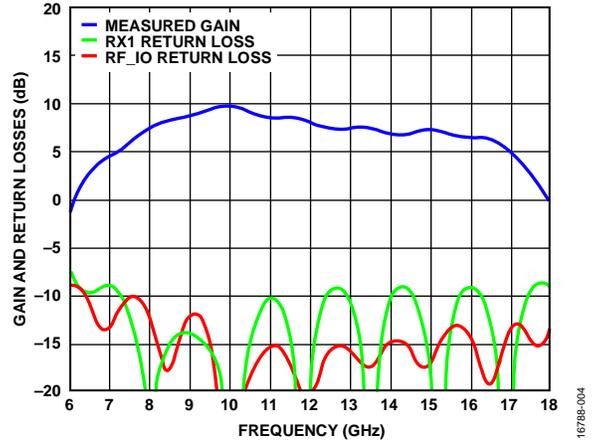

Figure 25. Receive Mode Gain and Return Loss Measurement Results
10. Measure the gain and return loss on the network analyzer. A typical response is shown in Figure 25.